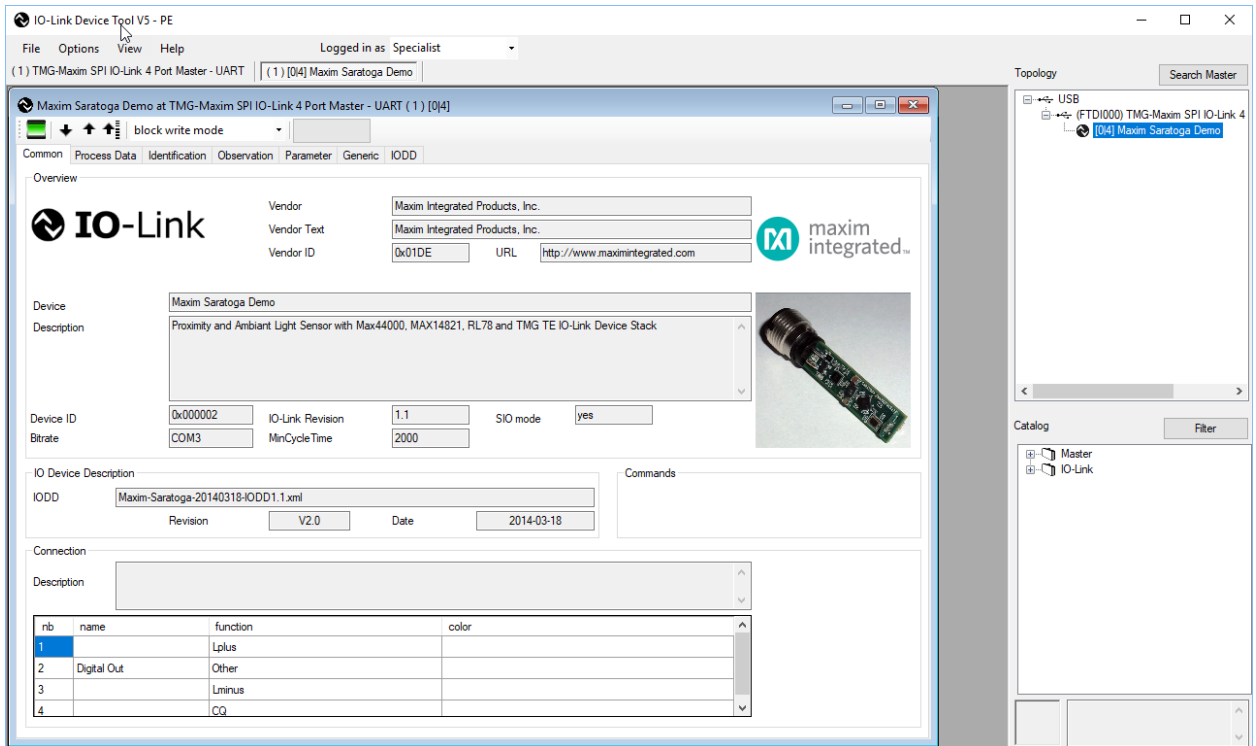

Figure 8. MAXREFDES27# IODD.
| Figure 8. MAXREFDES27# IODD..... | 9 |
- Double click on the device to open and display the data from the MAXREFDES27# IODD file, as shown in Figure 8.